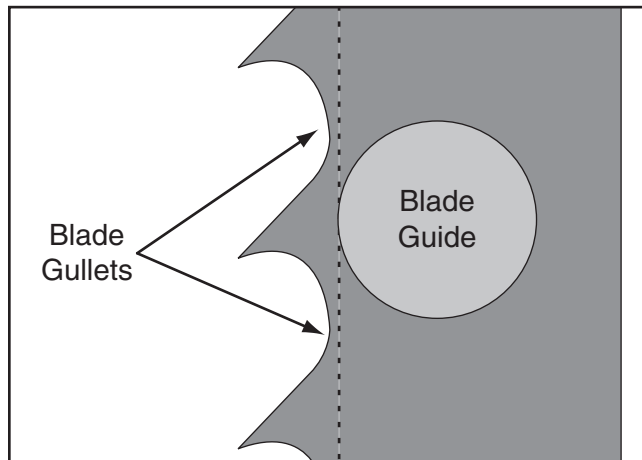

Figure 25. Lateral adjustment of blade guides.
5. Slide the guide assembly so the front edges of the blade guides are just behind the blade gullets as illustrated in **Figure 25**.